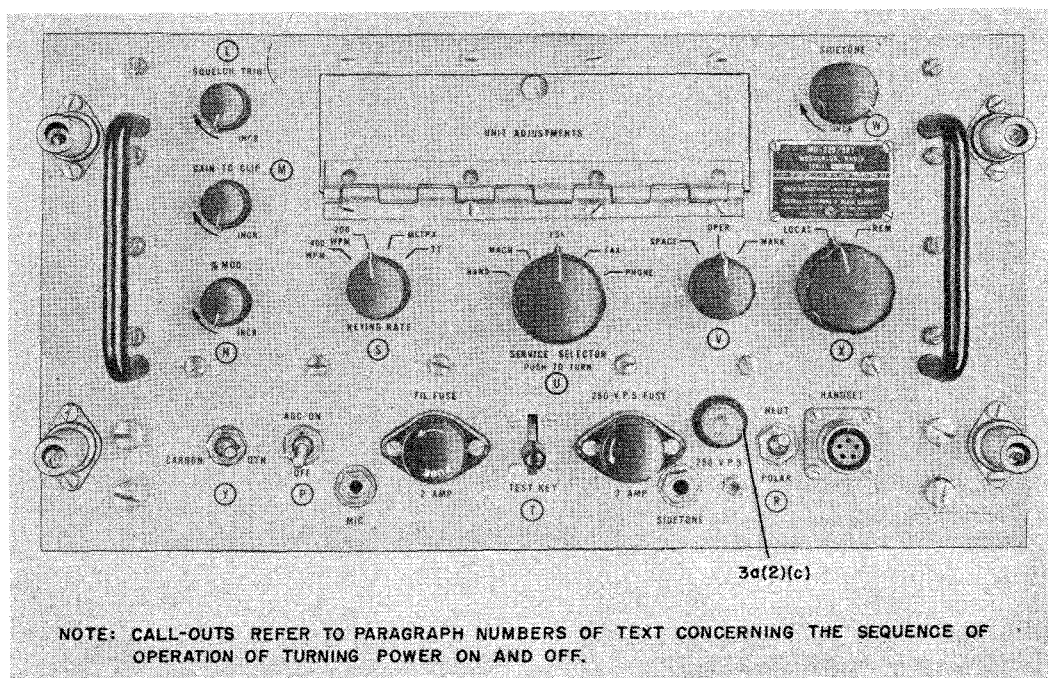

Figure 4-3. Radio Modulator MD-229/SRT (Low Level Radio Modulator, LLRM), Front Panel Controls and Indicators.
Selection of mode of transmission.	Low Level Radio Modulator MD-229/SRT (figure 4-3)
Selecting local or remote operation.	Low Level Radio Modulator MD-229/SRT (figure 4-3)
(5) SCREEN OVERLOAD RESET SWITCH (K).—In case the PA screen overload relay is energized because of excessive PA screen grid current when in 500-watt operation, the transmitter is returned to the 100-watt level. The overload is indicated by the PA SCREEN OVERLOAD lamp. When the cause of the overload is removed, depressing the SCREEN OVERLOAD RESET switch (K) restores the overload relay, and depressing the PUSH FOR 500 W (E) push button allows the transmitter to return to the 500-watt level.
(6) EXCITATION CONTROL (Z).—The input signal from the RFO varies in amplitude at the various frequencies. To compensate for this and for variances in output impedance of the PA, a control known as the EXCITATION control (Z) regulates the input level of signal from the RFO to prevent overdriving of the PA stage.
(7) INDICATOR LIGHTS.—There are eight indicator lights mounted on a panel in the lower center of the front panel. Three of these lights are overload indicators, four others indicate the condition of the carrier in either 100-watt or 500-watt operation, and the remaining light is a spare.
(8) ANTENNA CURRENT METER.—The ANT. CURRENT meter is placed in the output of the PA stage to give indication of amplitude of r-f line current at the output of the RFA.
(9) FUSE.—A 3-amp fuse is located on the front panel for protection of the blower motor in the RFA.
b. RADIO MODULATOR MD-229/SRT (LOW LEVEL RADIO MODULATOR).—The front panel of the low level radio modulator (LLRM) (figure 4-3) contains the following major control functions: selection of the mode of transmission, selection of local or remote transmission, and controls of audio modulator and keyer circuits.
(1) SERVICE SELECTOR CONTROL (U).—The mode of transmission of the transmitter group is determined by the manual setting of the SERVICE SELECTOR control (U). The control has five positions: HAND for hand-keyed cw, MACH for c-w keying originating from a machine-keying device such as teletype, FSK for frequency-shift keying from machine-keying equipment, FAX for facsimile transmission and phone for amplitude-modulated phone transmission. To prevent random bursts of transmission when the contacts are transferred during radio silence and to prevent switching of power supply circuits under load, a push-to-turn feature is incorporated in this switch.
(2) SQUELCH TRIG. CONTROL (L).—The SQUELCH TRIG. control (L) is used only when the SERVICE SELECTOR control (U) is in the PHONE position. When monitoring through SIDETONE jack, this control is adjusted to reduce the noise level between words to a minimum without sacrificing low level voice. The setting is a compromise between low level speech signals and the noise level during pauses in speech.
(1) Depress SERVICE SELECTOR switch (U) and turn it to HAND. (See figure 4-3.) Be certain this switch does not remain depressed after the transfer is completed.
(2) Set KEYING RATE switch (S) to TT for hand keying.
(3) Place POLAR-NEUT. switch (R) in the NEUT. position.
(4) Loosen the captive screws on the LLRM front panel and pull out the LLRM chassis until the TIME CONST. ADJ. control, R-1134, on the preamplifier subchassis becomes accessible. "Cheat" the LLRM drawer interlock. With the transmitter on in the "stand-by" condition, turn the TIME CONST. ADJ. full counterclockwise. Operate the TEST KEY (T) at the operator's normal keying speed. Relay K-1102 will operate at the start of transmission and will possibly drop out during pauses between words. The TIME CONST. ADJ. is regulated clockwise until K-1102 will no longer drop out during these pauses at the operator's normal keying rate. As K-1102 is a sealed relay, the indications of K-1102 dropping out must be noted by ear.